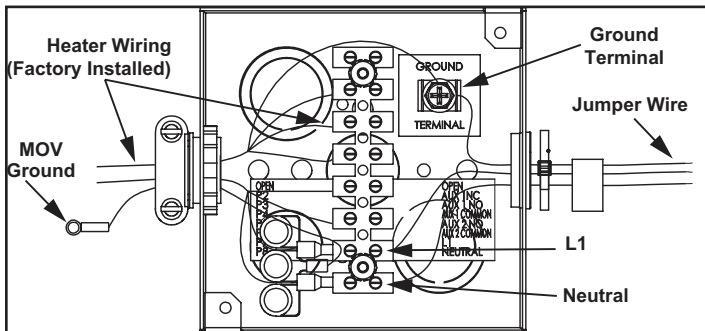

Figure 53. Power Supply Connections
The 120 VAC hot wire from the power supply must connect to the black jumper wire or the "L1" terminal block location in the junction box and the 120 VAC neutral wire must connect to the white jumper wire or the "Neutral" terminal block location in the junction box for correct polarity. See **Figure 53**.
3. Connect the 120 VAC hot wire from the power supply to the black jumper wire or the terminal block location marked "L1" inside of the junction box located on top of the water heater. If the black jumper wire is used, make the connection inside of the junction box with a properly sized wire nut and wrap electrical tape around the wire nut and wire end. See junction box **Figure 53** and wiring diagram **Figure 64** (page 70).
4. Connect the 120VAC neutral wire from the power supply to the white jumper wire or the terminal block location marked "Neutral" inside of the junction box located on top of the water heater. If the white jumper wire is used, make the connection inside of the junction box with a properly sized wire nut and wrap electrical tape around the wire nut and wire end. See junction box **Figure 53** and wiring diagram **Figure 64** (page 70).
5. Connect the ground wire from the power supply to the green jumper wire or the ground terminal location inside of the junction box located on top of the water heater. If the green jumper wire is used, make the connection inside of the junction box with a properly sized wire nut and wrap electrical tape around the wire nut and wire end. See junction box *Figure 53* and wiring diagram *Figure 64* (page 70).